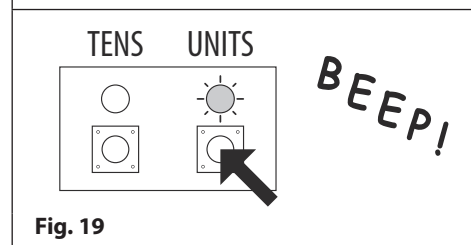

Fig. 19
2. Use the units button to set the unit ID of the reader, e.g. to set the unit ID to 5 press the units button 5 times (listen for the confirmation beep each time the button is pressed and observe the yellow units LED as this should flash each time the button is pressed), see **Fig.19**.